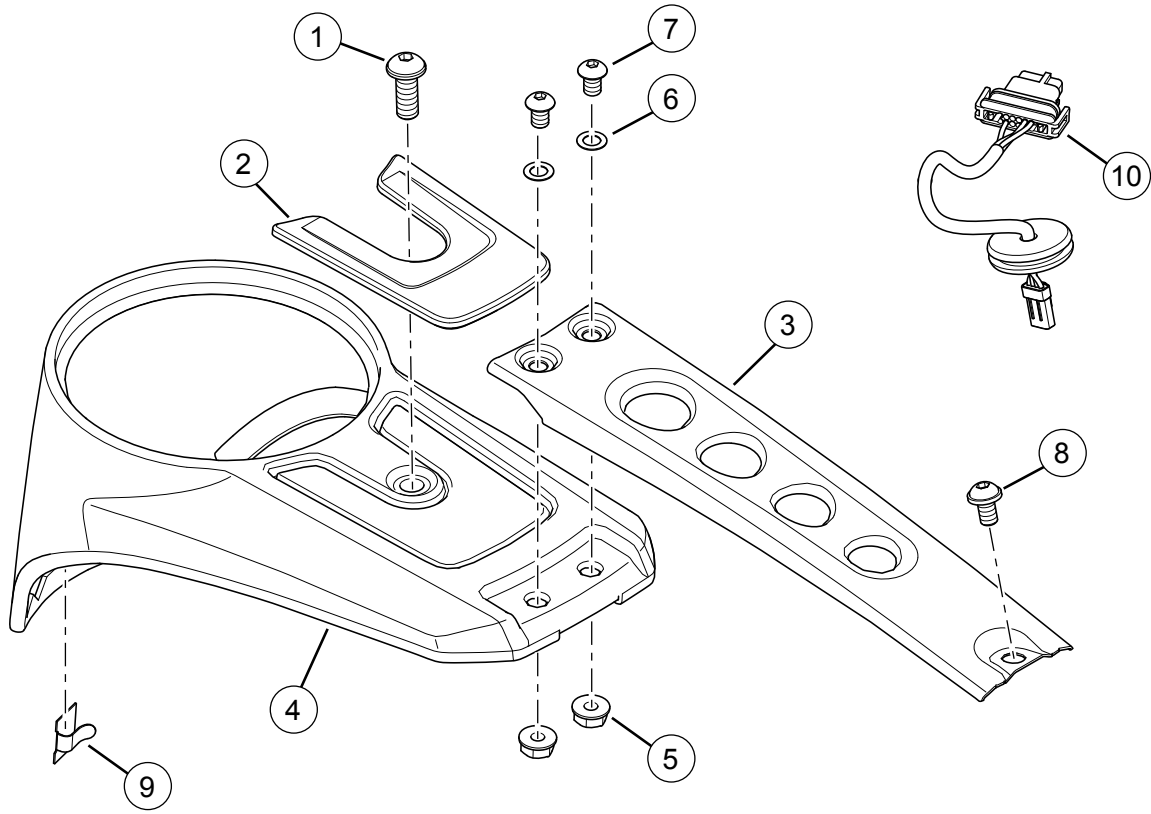
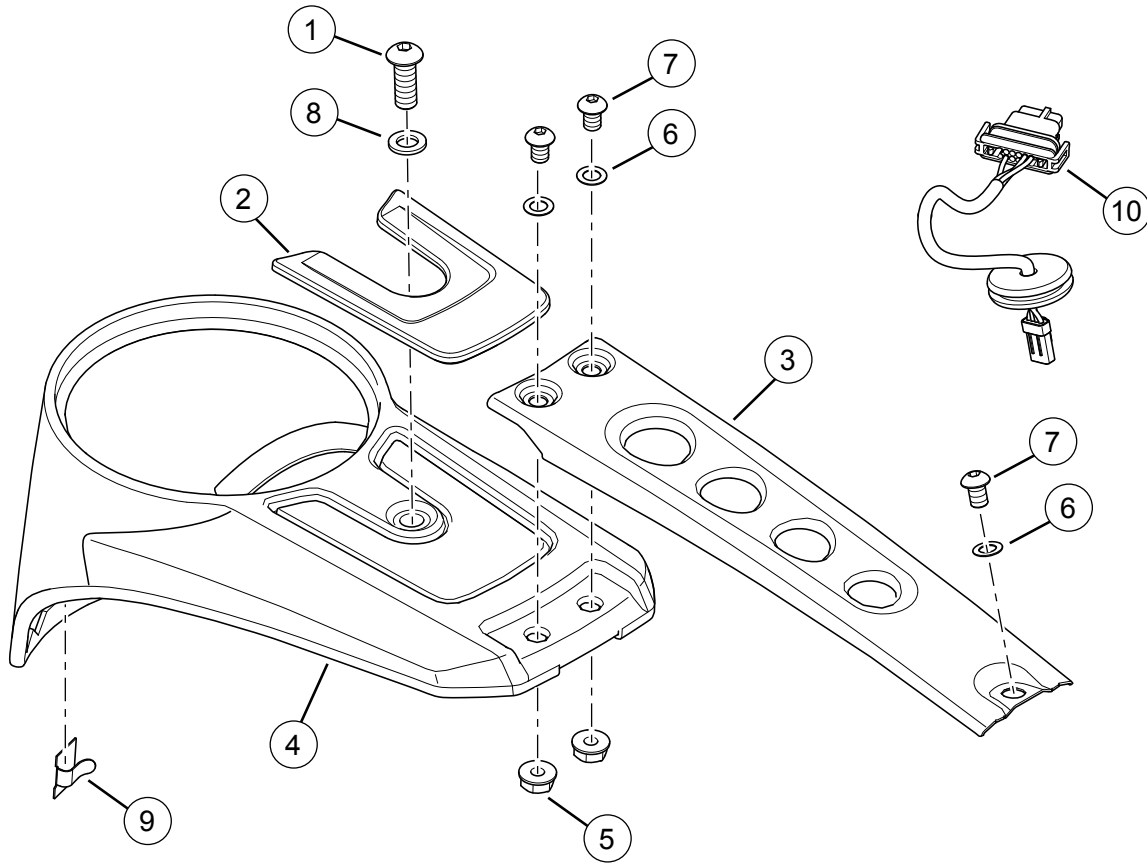

Figure 3. 5" Console Kit (Chrome)
Figure 4. 5" Console Kit (Black)
See Figure 3 or Figure 4, and Table 1.
1. Remove Instrument Module (IM). See the service manual.
2. **Kits 70900835, 70900836:** See Figure 3 or Figure 4. Remove and discard IM harness (10). See the service manual.
1. See Figure 3 or Figure 4. Clean the area on the console (4) for the medallion (2). See Adhesive Strips.
2. Remove the protective tape from the adhesive backing of the console medallion (2). Attach the medallion to the cleaned area on the console (4).
- a. position console trim (3) on top of console.
- b. Install screws (7), washers (6), and flange nuts (5). Tighten.